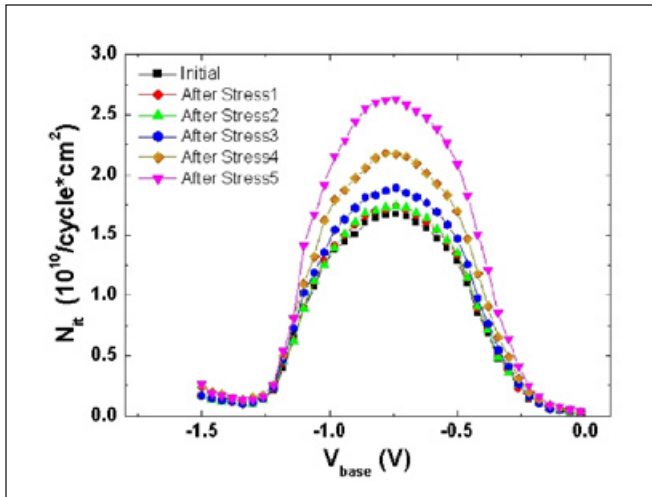

Figure 4. Formation of interface states after DC stress.
ing normal transistor operation, one can stress the gate so that charges are intentionally injected into it (charge pumping). The purpose of doing this is twofold: (1) you can control the amount of injected charge; (2) you can see if there is any interface damage due to stress and how the damage affects charge trapping behavior. The damage to the interface can be seen when measuring charge pumping current after each stress. **Figure 4** shows that accumulating stress creates more interface states.